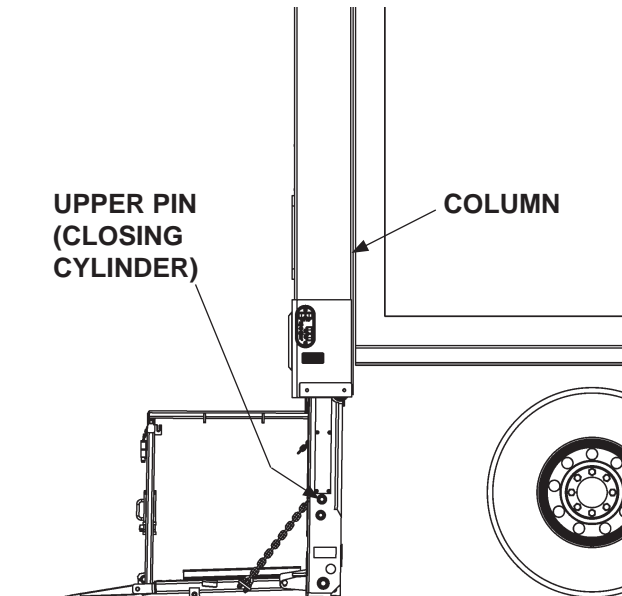

FIG. 20-1
1. **UNFOLD** the platform. Lower the platform (**DOWN**) to comfortable height for work. Upper pin must be lower than the bottom of the column (see FIG. 20-1).